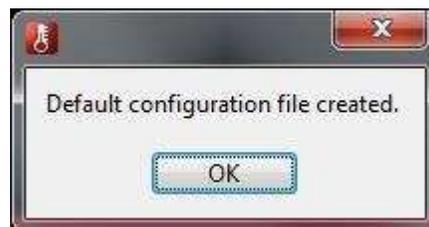

Figure 16. Default Configuration
1. Connect the TMP116EVM to a USB port on a PC as shown in Figure 16.